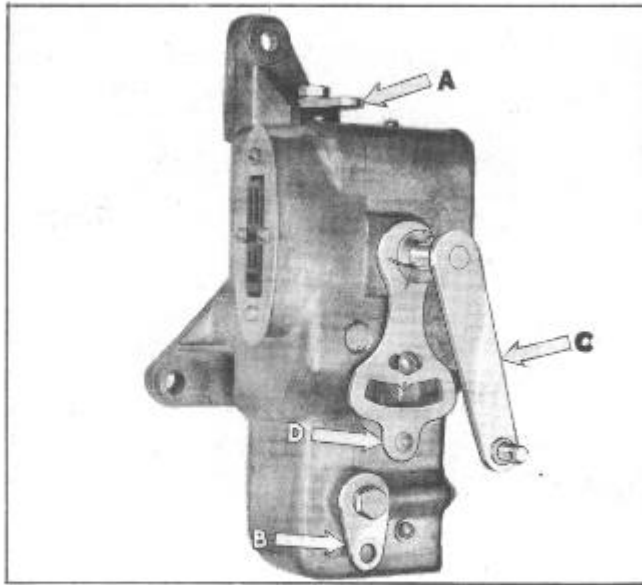

FIGURE 7
This switch box, Figure 7, bolted to the power unit bracket on the left side of the engine, contains the mechanically operated switches used to control the Drive-Master.
(A) **THE TRANSFER SWITCH**, Figure 7, is located at the top of the transmission switch and is operated by a non-adjustable link connected to the transmission cross shift selector lever.